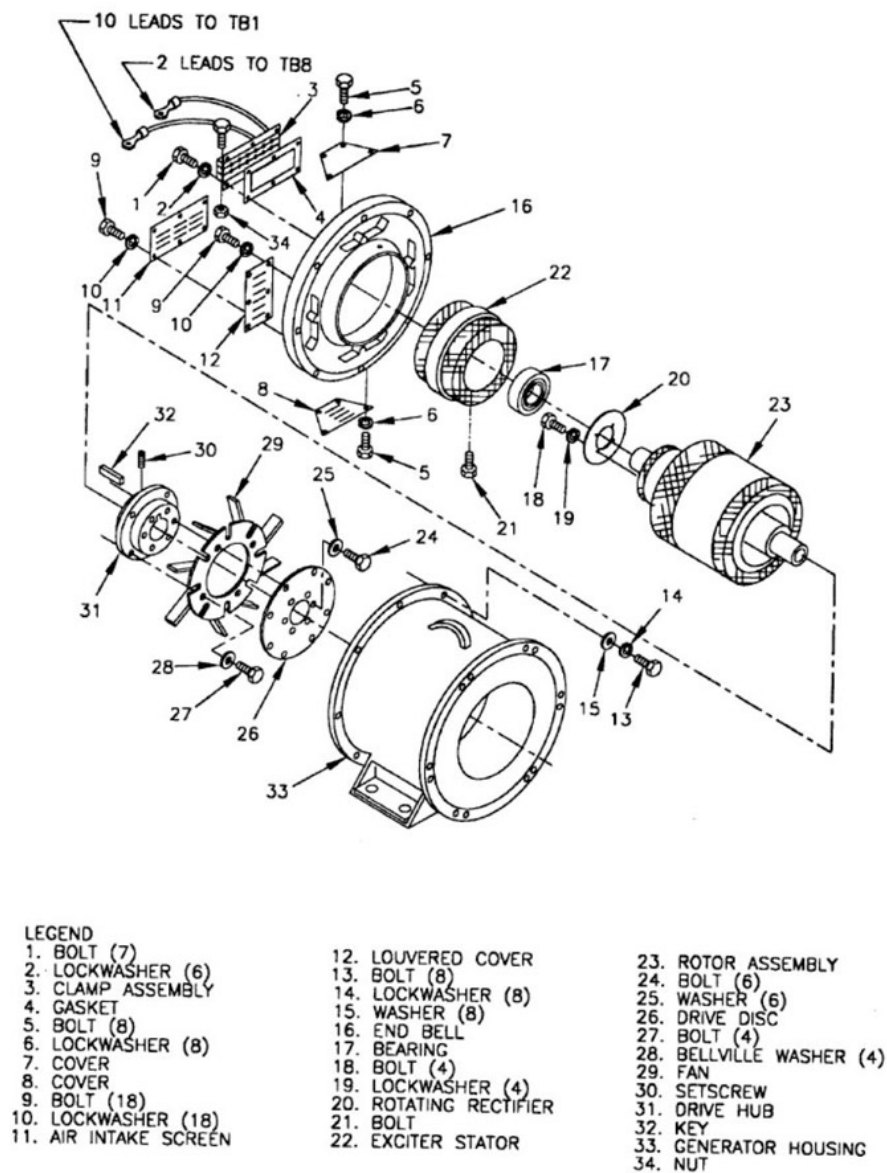

Figure 3-24. Alternator assembly.
- Remove the bolts (fig. 3-24), washers, and drive discs from the drive hub.